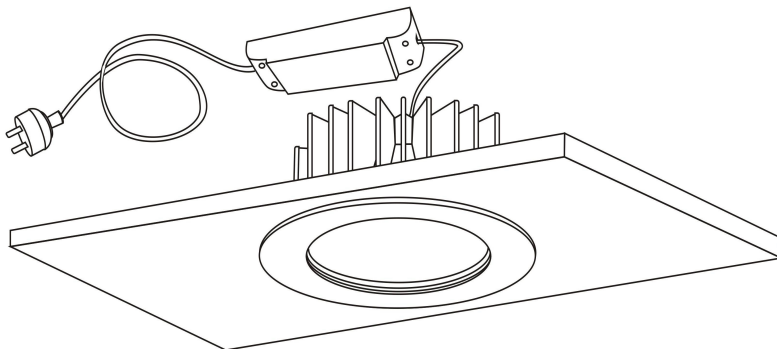

Figure 3
3. Align the mounting holes and push up of arrow direction until it is completely installed in the ceiling, turn on the power, lighting installation is complete as shown in. figure 3.;